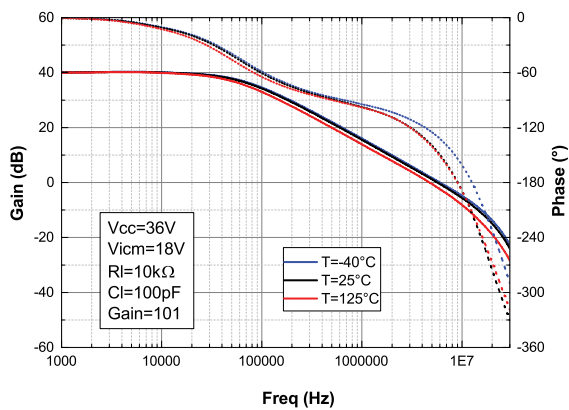
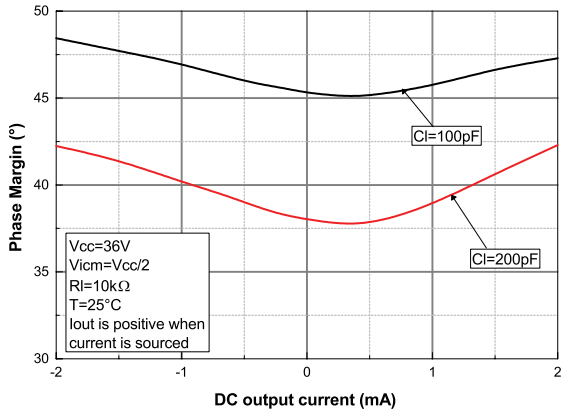

Figure 24. Phase margin vs. output current at $V_{CC} = 5\text{ V}$
Figure 26. Phase margin vs. capacitive load
4. For higher capacitive values see Figure 24. Phase margin vs. output current at \$V_{CC} = 5\text{ V}\$ , Figure 26. Phase margin vs. capacitive load